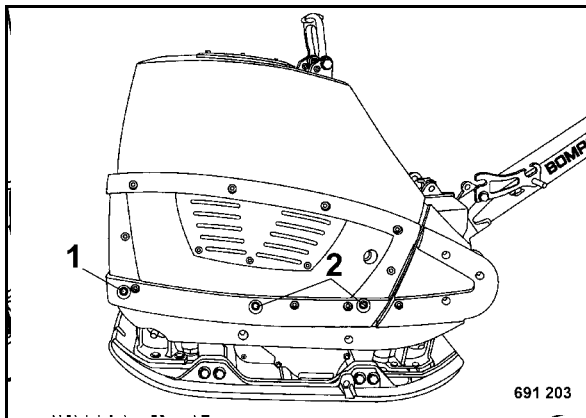

Fig. 54
- Loosen the hood fastening screws (1) on both sides and remove the hood fastening screws (2) on both sides (Fig. 54).